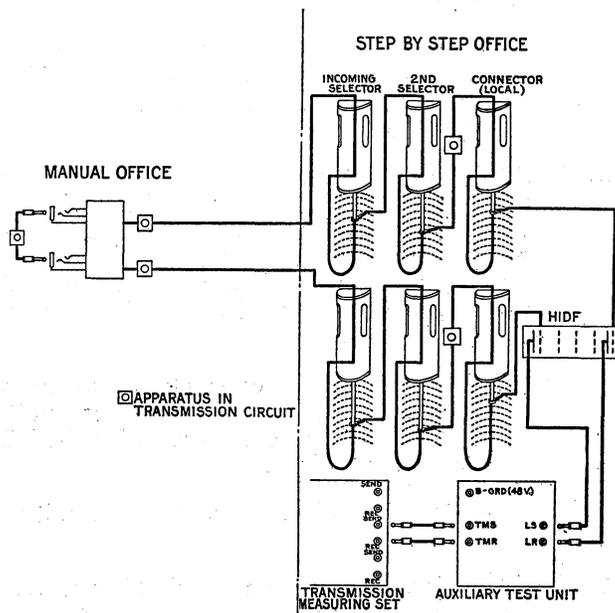

Figure 1
2.03 Figure 1 shows schematically the connections for the test.
- 3.03 Figure 1 shows schematically the connections for the test.